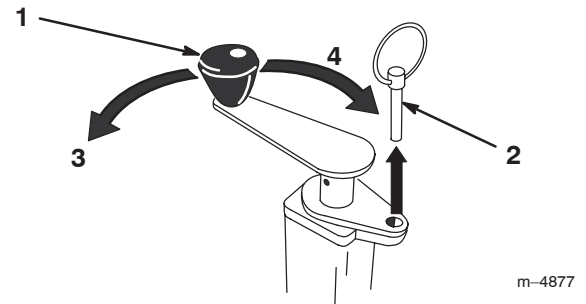

Figure 5
1. Remove the pins securing the grader crank knobs (Fig. 5).
2. Turn the cranks counterclockwise to lower the blade or clockwise to raise it (Fig. 5).